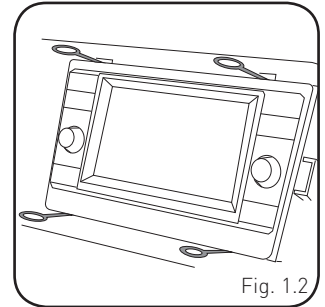

Fig. 1.2
2. Remove the factory radio using the four (4) supplied radio removal tools. Slide them into the top and bottom locations with the tapered side facing inward until they click, then pull them outward to release the clips and remove the radio from the dash. Disconnect all harness. (Fig. 1.2)